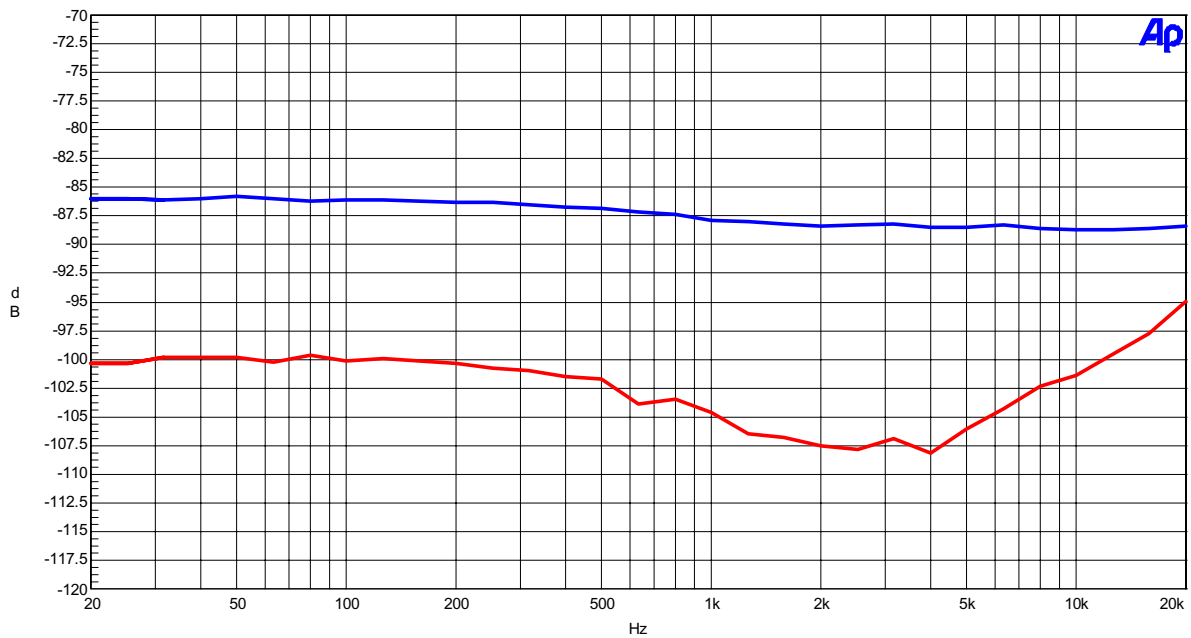

Figure 1-8. Crosstalk (Input Level=-1dBFS)
- Figure 1-8. Crosstalk (Input Level=-1dBFS)